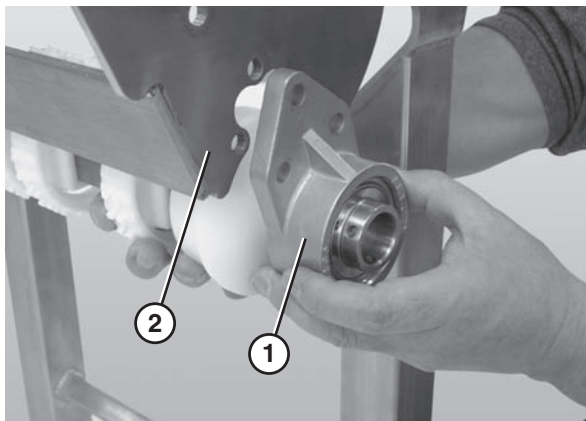

Figure 54
7. Disconnect the 3 hole flange bearing (**Figure 54, item 1**) from the nose bar drive weldment (**Figure 54, item 2**).